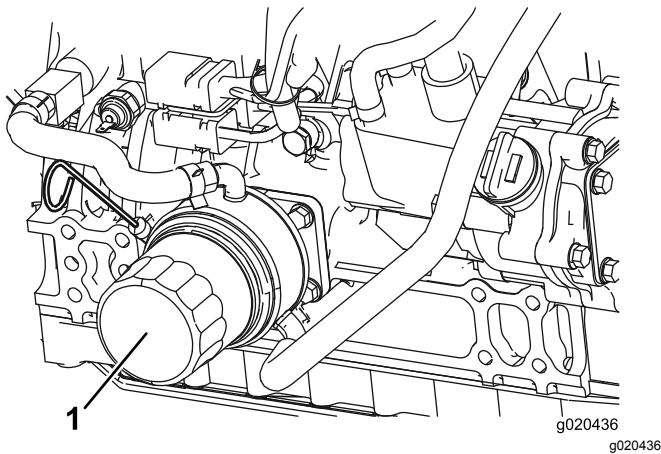

Figure 60
2. Remove the oil filter (Figure 60).